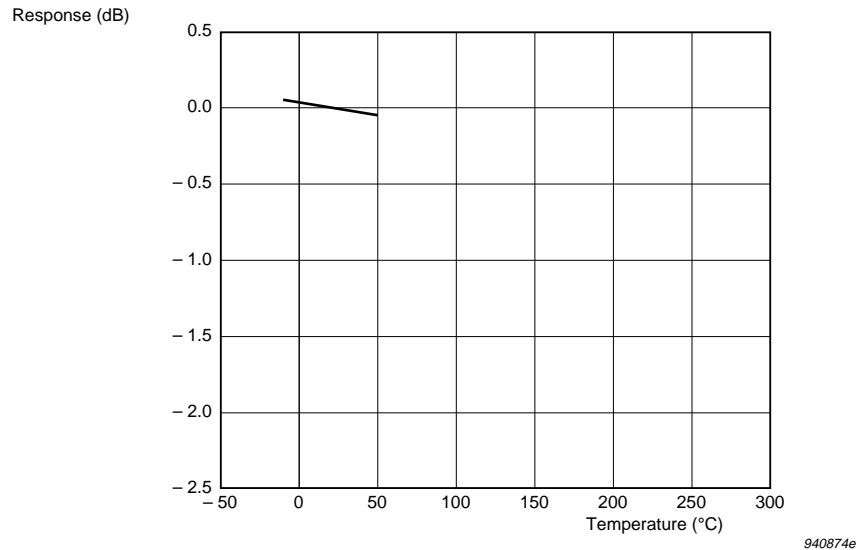
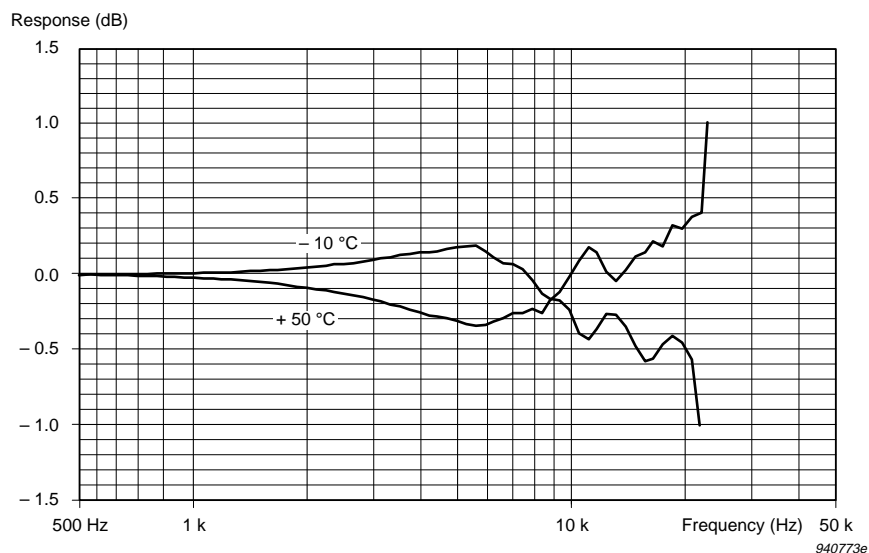

Fig. 3.20 Typical variation in sensitivity (at 250 Hz) as a function of temperature, relative to the sensitivity at 20°C
Fig.3.21 Typical variation in actuator response (normalized at 250 Hz) as a function of temperature, relative to the response at 20°C (see Fig.3.4)
The reversible changes are shown in Fig.3.20 as a change in sensitivity and in Fig.3.21 and Fig.3.22 as changes in the frequency response normalized at 250 Hz.
- the measured change in the actuator response due to temperature (see Fig.3.21).